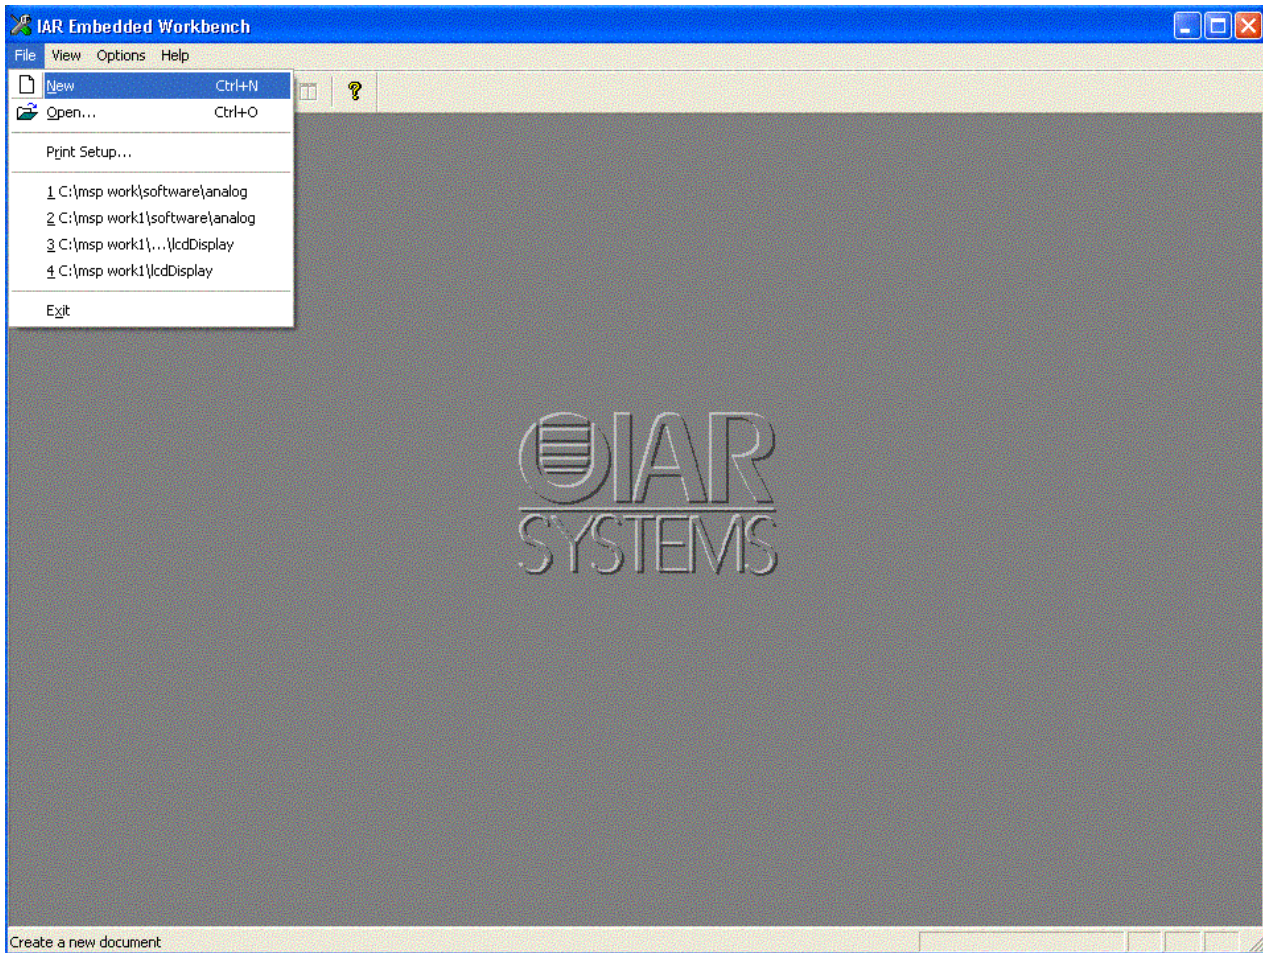

Figure 8: Showing procedure in building software, Step 2.
Step 2: Take the following path on you PC: **Start / Programs / IAR Systems / IAR Embedded Workbench for MSP430 KickStart/IAR / Embedded Workbench.** This will open the screen shown in Figure 8 after you have select **File** and drag down to **New**.